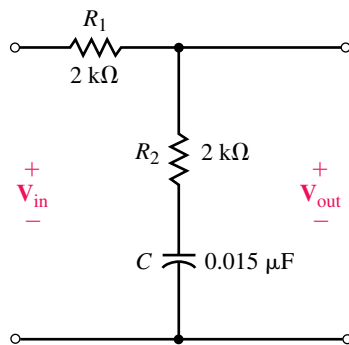

FIGURE 22-48
35. Refer to the low-pass circuit of Figure 22-48: